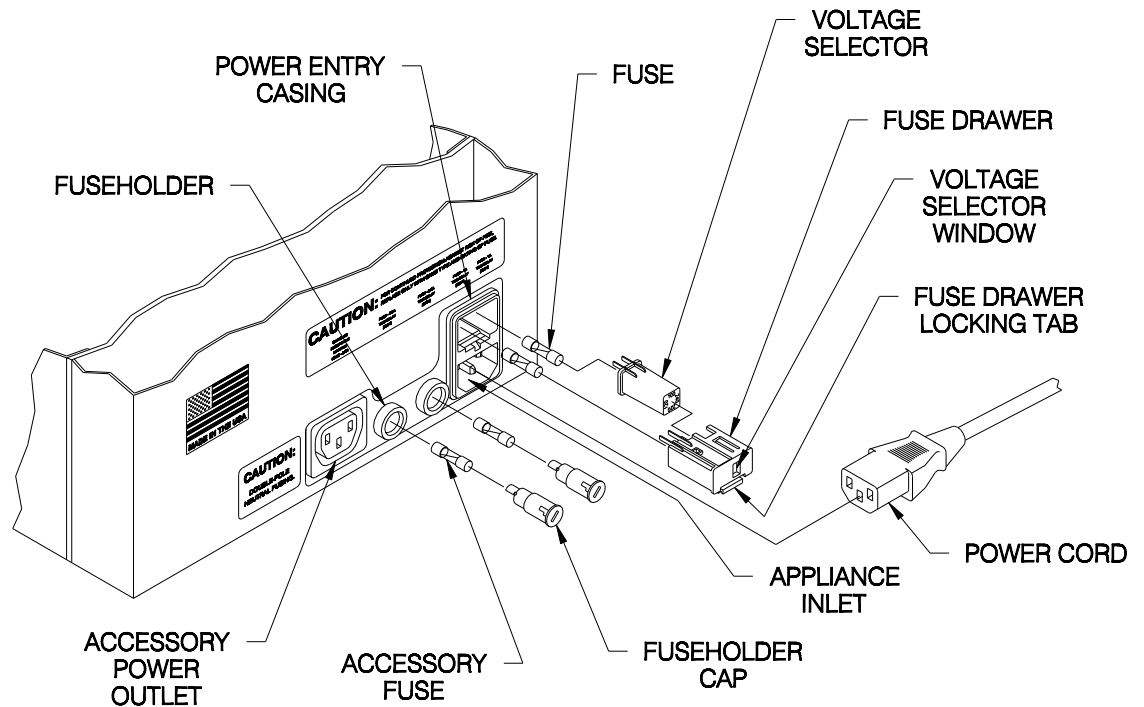

Figure 7.1 – Replacing a Line Fuse
1. Use a small screwdriver or similar tool to push up on the FUSE DRAWER LOCKING TAB to release this locking tab. (Refer to **Figure 7.1.**)
2. Pull the FUSE DRAWER out of the POWER ENTRY CASING. (Refer to **Figure 7.1.**)
6. Install the FUSE DRAWER. (Refer to **Figure 7.1.**)
1. Use a small screwdriver or similar tool to press in and slightly rotate the FUSEHOLDER CAP counterclockwise. (Refer to **Figure 7.1.**)
5. Install the FUSEHOLDER CAP into the FUSEHOLDER. (Refer to **Figure 7.1.**)